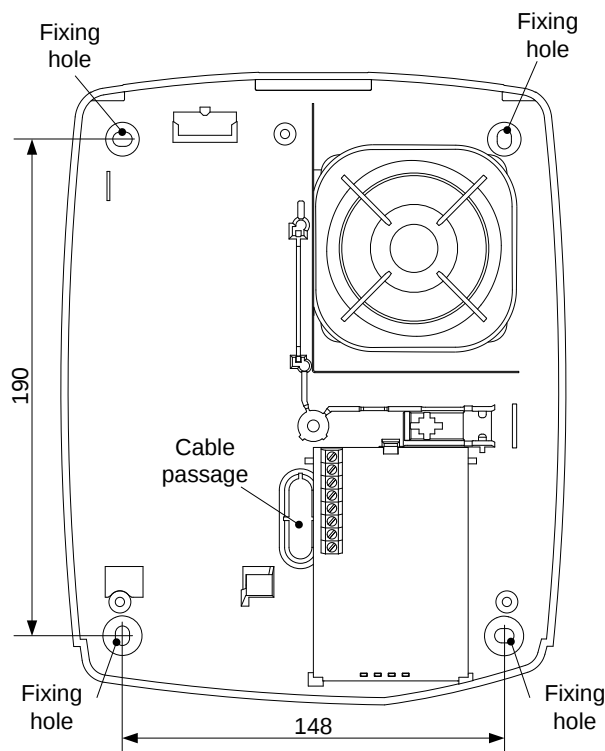

Figure 2 - View of the bottom of the siren – dimensions in mm
- Install on a wall using the relevant fixing holes placed on the bottom of the enclosure (as illustrated in *figure 2*).